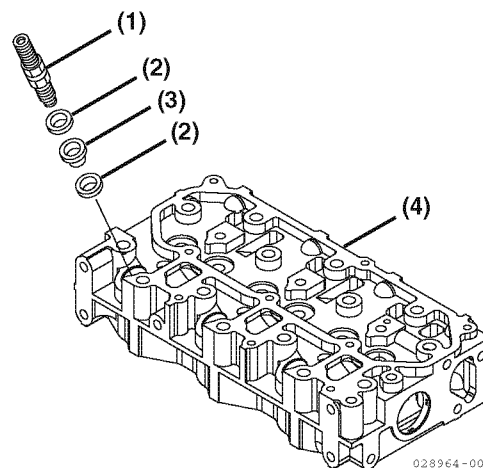

Figure 5-123
1. Replace the fuel nozzle protectors (Figure 5-123, (3)) and fuel nozzle seats (Figure 5-123, (2)).
2. Place the nozzle seat in the cylinder head (Figure 5-123, (4)), and the protector on the nozzle tip.
3. Install the fuel injection nozzles (Figure 5-123, (1)) into the cylinder head.